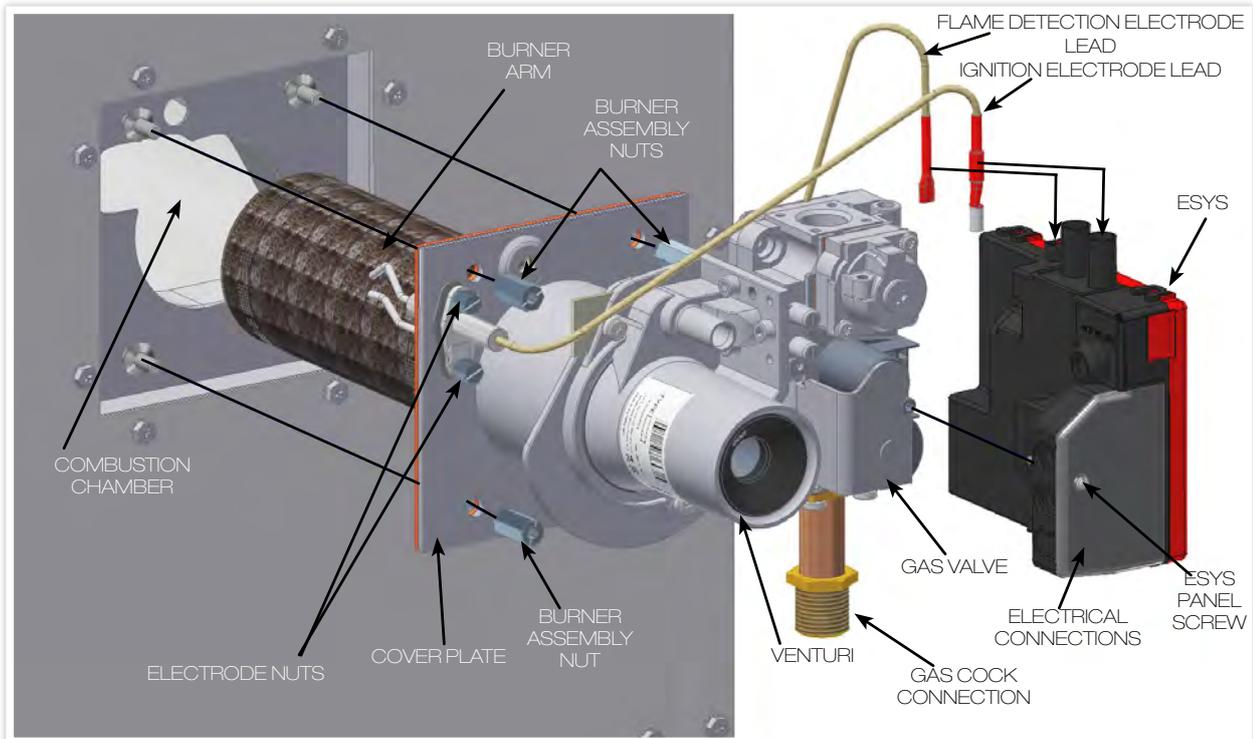

FIGURE 19. MAIN BURNER ASSEMBLY REMOVAL
- 16.4.1 Refer to section 16.3. See Figure 19.
- 16.5.1 Refer to section 16.3. See Figures 19 & 20.